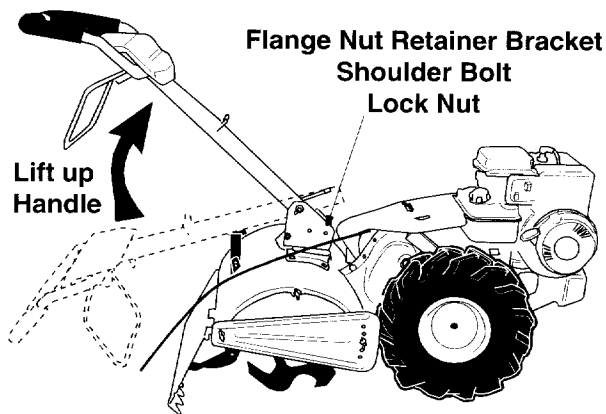

Figure 5
3. Lift up the handle assembly and align the bottom holes in the handle assembly with the holes in the pivot bracket. Insert hex bolt (with Hex nut retainer attached through the round hole). The head of hex bolt and retainer bracket should be to the right hand side of the unit. See Figure 5.